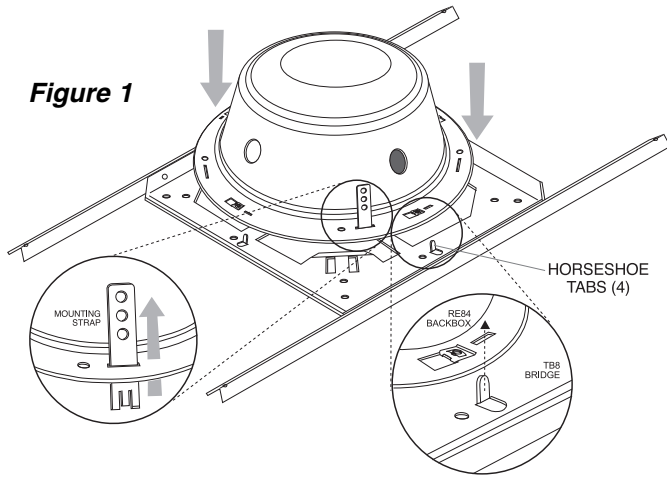
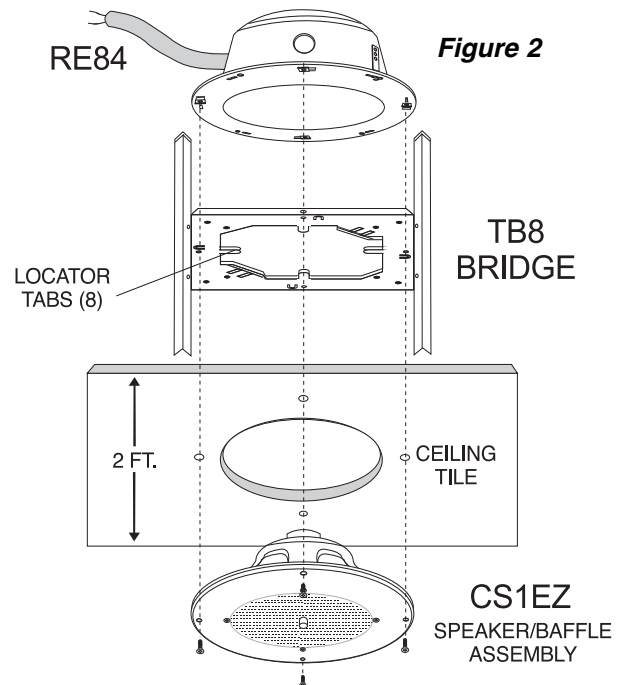

Figure 1
Figure 2
STEP 2 - If using the optional RE84 Recessed Enclosure, bend up the 4 horseshoe tabs (see figure 1 on the TB8). Position the TB8 over the hole in the tile and push down the locator tabs (see figure 2).